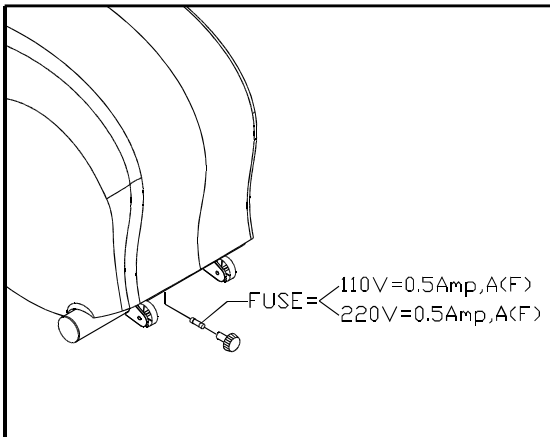

Fig.14-1
1. Unscrew the back cover of display. (see Fig 14-1)